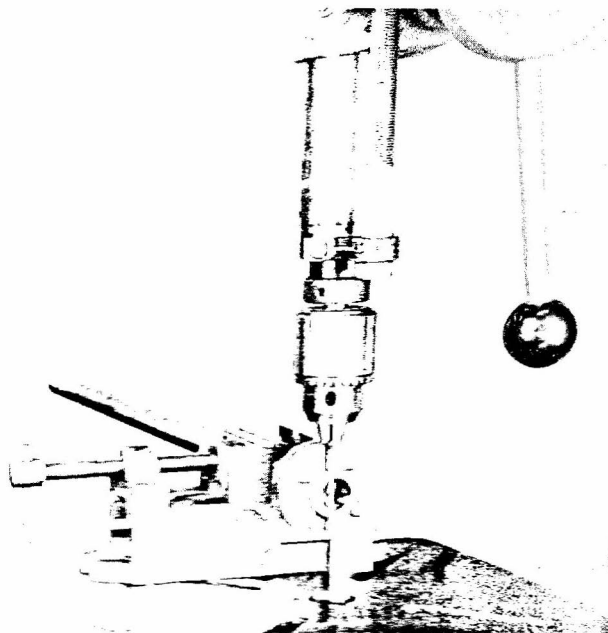

Fig. 2
3. Using a drill press vise or V blocks and clamps to hold the assembly, place the assembly on the drill press table. Insert a 3/16" drill bit in the drill chuck. Then, use the drill bit as a guide, position the assembly so that the drill is aligned with the hole in the old flange. See Fig. 2. Fasten the assembly securely to the drill press table.